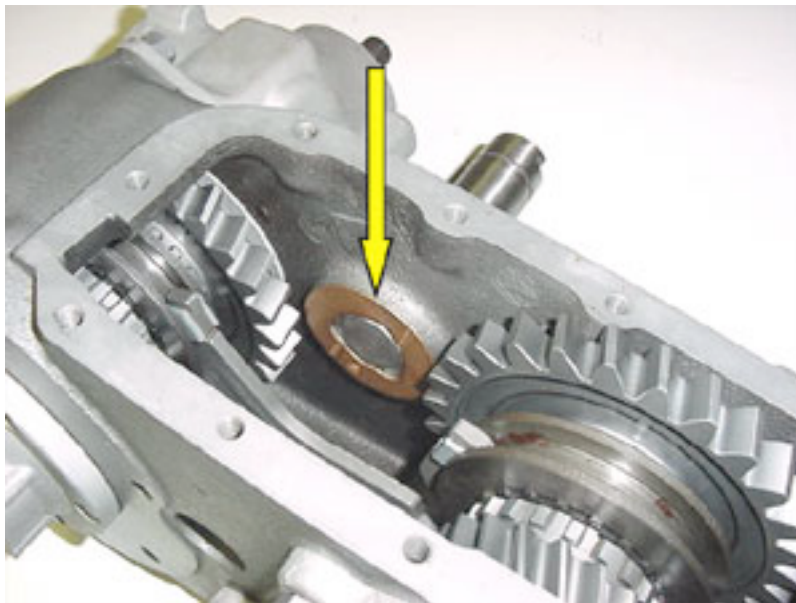

FIG: 19
18) Place one of the thrust washers into the case as shown (Fig.19). Coat both sides of the washer with thick grease and place it into the case properly. You can use the cross shaft as shown to hold the washer in place as you lower the idler gear into place (later in the installation of the gear).